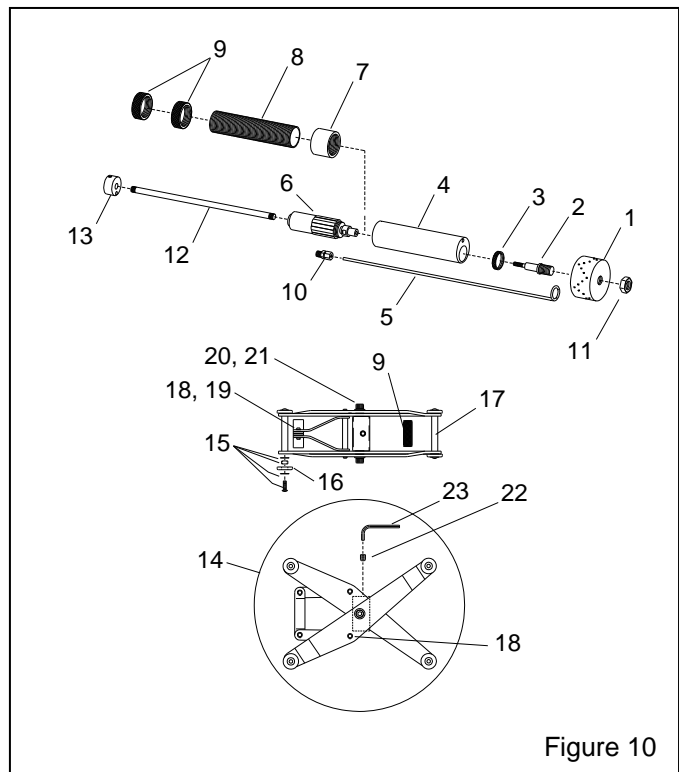

Figure 10
8.4 Spin-Kote 512 with 3-Inch Head, Figure 10